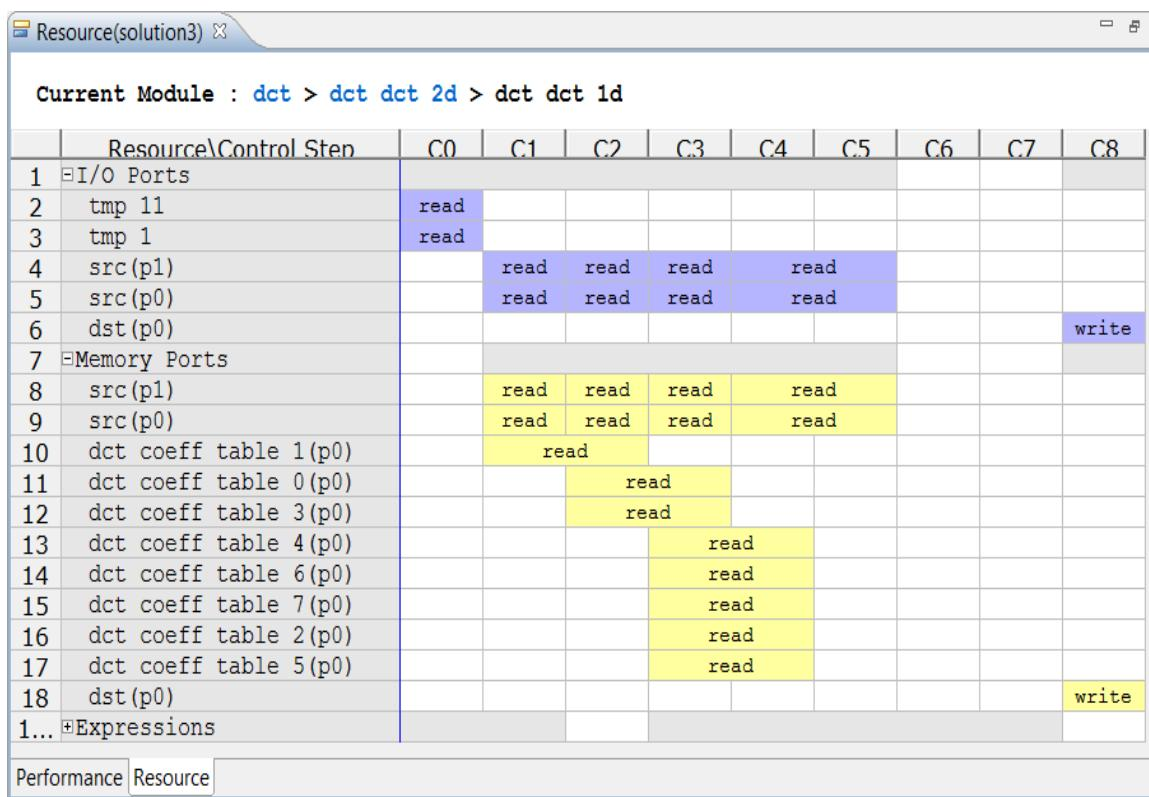

Figure 6-24: Resource Sharing of Memory Ports in DCT_1d
15. Expand the Memory Ports, as shown in Figure 6-24.